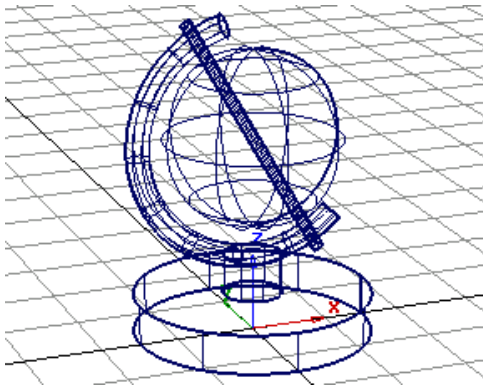

Figure 2-111 Model after rotating the axial rod
4. Enter **0, -30, 0** in the promptline and press ENTER; the ring is rotated about the Y-axis, as shown in Figure 2-111.